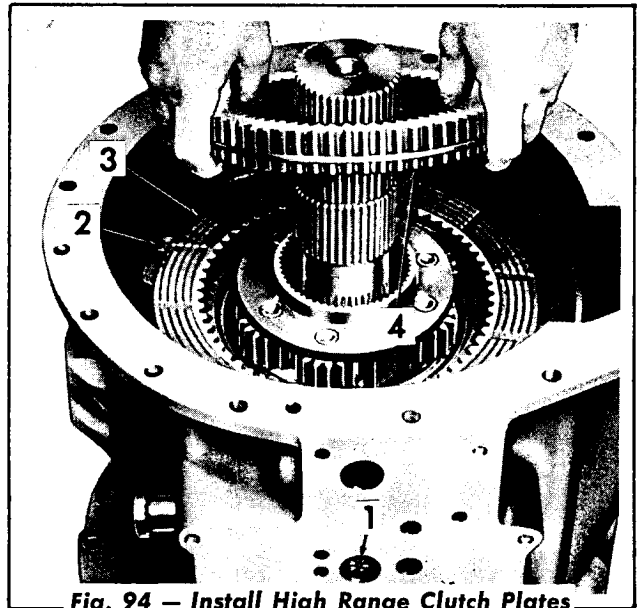

Fig. 94 — Install High Range Clutch Plates and Ring Gear
10. Install the high range piston retainer cap-screw (Fig. 94). Install one external and one internal splined high range clutch plates. Install the high range ring gear with the short splines down.